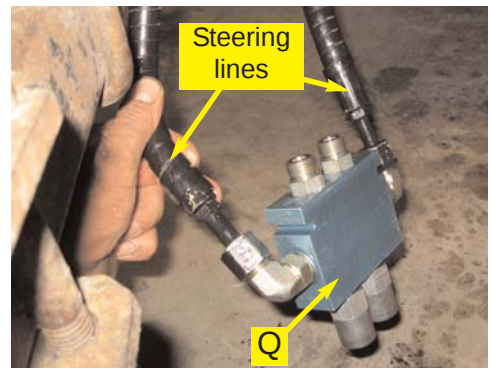

Figure 7c. Steering lines connected to the counter-balance valve.
- b. Remove the steering lines and connect them to the **V1** and **V2** ports of the counter-balance valve (**Q**). (Figure 7c.)